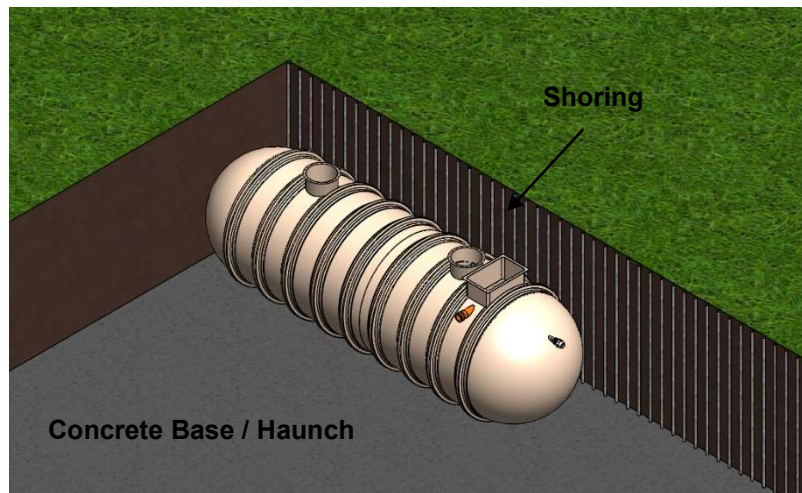

Figure 3
- 4.12. Construct a concrete base for the main pump chamber (ensuring a minimum concrete thickness of 150mm), ensuring the slab is flat and level and allow to set (**Fig 3**).
- 4.13. Lay a suitable concrete haunch for the chambers to sit on (**Fig 3**).
- 4.15. Lower the pump chamber onto the haunch using suitable webbing slings and lifting equipment ensuring that the inlet and duct pipes are correctly aligned with the site pipe work (**Fig 3**).